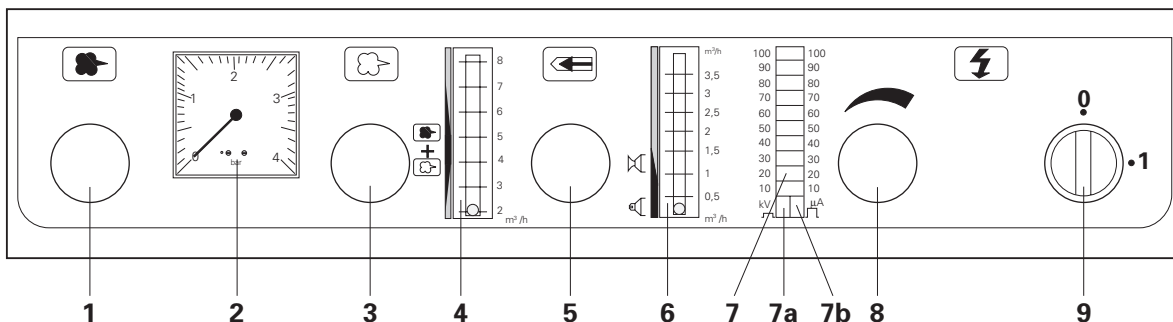

Figure 14
4. Set the conveying air (see page 12, Fig. 14 - **1** and **2**).
5. Adjust the supplementary air (see page 12, Fig. 14 - **3**).
- Adjust the rinsing air on the control module with the control knob (page 12, Fig. 14 - **5**) so that the ball in the flowmeter (page 12, Fig. 14 - **6**) "floats" in the lower green area of the scale (Flat jet nozzle symbol).
- Adjust the rinsing air on the control module with the control knob (page 12, Fig. 14 - **5**) so that the ball in the flowmeter (page 12, Fig. 14 - **6**) "floats" in the upper green area of the scale (Round jet nozzle symbol).